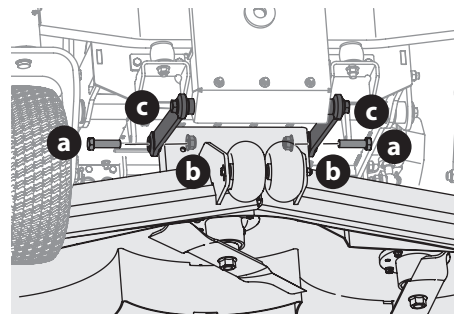

Figure 58
5. Remove the hex screws (a) and flange lock nuts (b) securing the front deck control rods (c) to the deck (Figure 58).